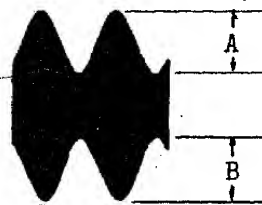

Figure 3-1
- Adjust CARRIER LEVEL control to obtain an AM signal. Refer to Figure 3-1.
(1) Balance
- Adjust VR207, AM BAL(T-2107, main board) to equalize the "A" and "B" of the waveform as shown in Figure 3-1.